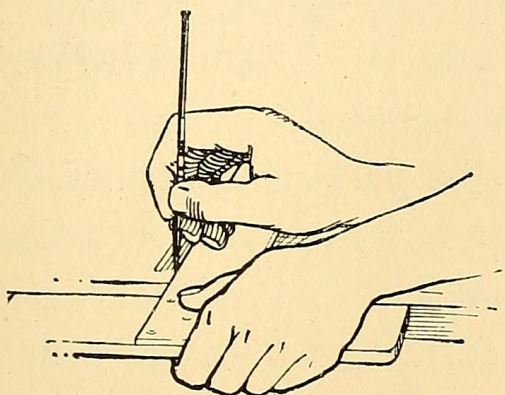

FIG. 99. — How to hold a Ruling-pencil.
**Ruling-pen** is necessary (Fig. 96). The ruling-pen must be held in a perpendicular position, with the ends of the fingers resting upon the T-square as shown in Fig. 99, so they will slide along the T-square easily. The thickness of the lines is governed by turning the screw upon the pen, which draws together or spreads apart the two blades.